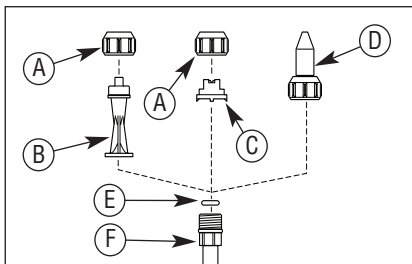

Figure 4. Install the Nozzle
2. Install the nozzle and cap nut (used with the fan and foaming nozzles only) onto the end of the extension and tighten the nut securely. See Figure 4.